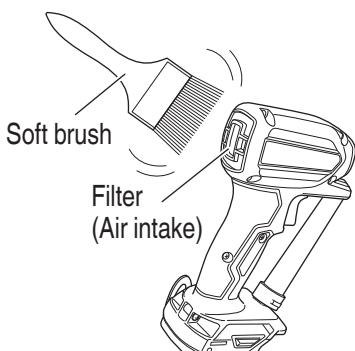

Fig. 22
5. Inspecting the air intake (Fig. 22)